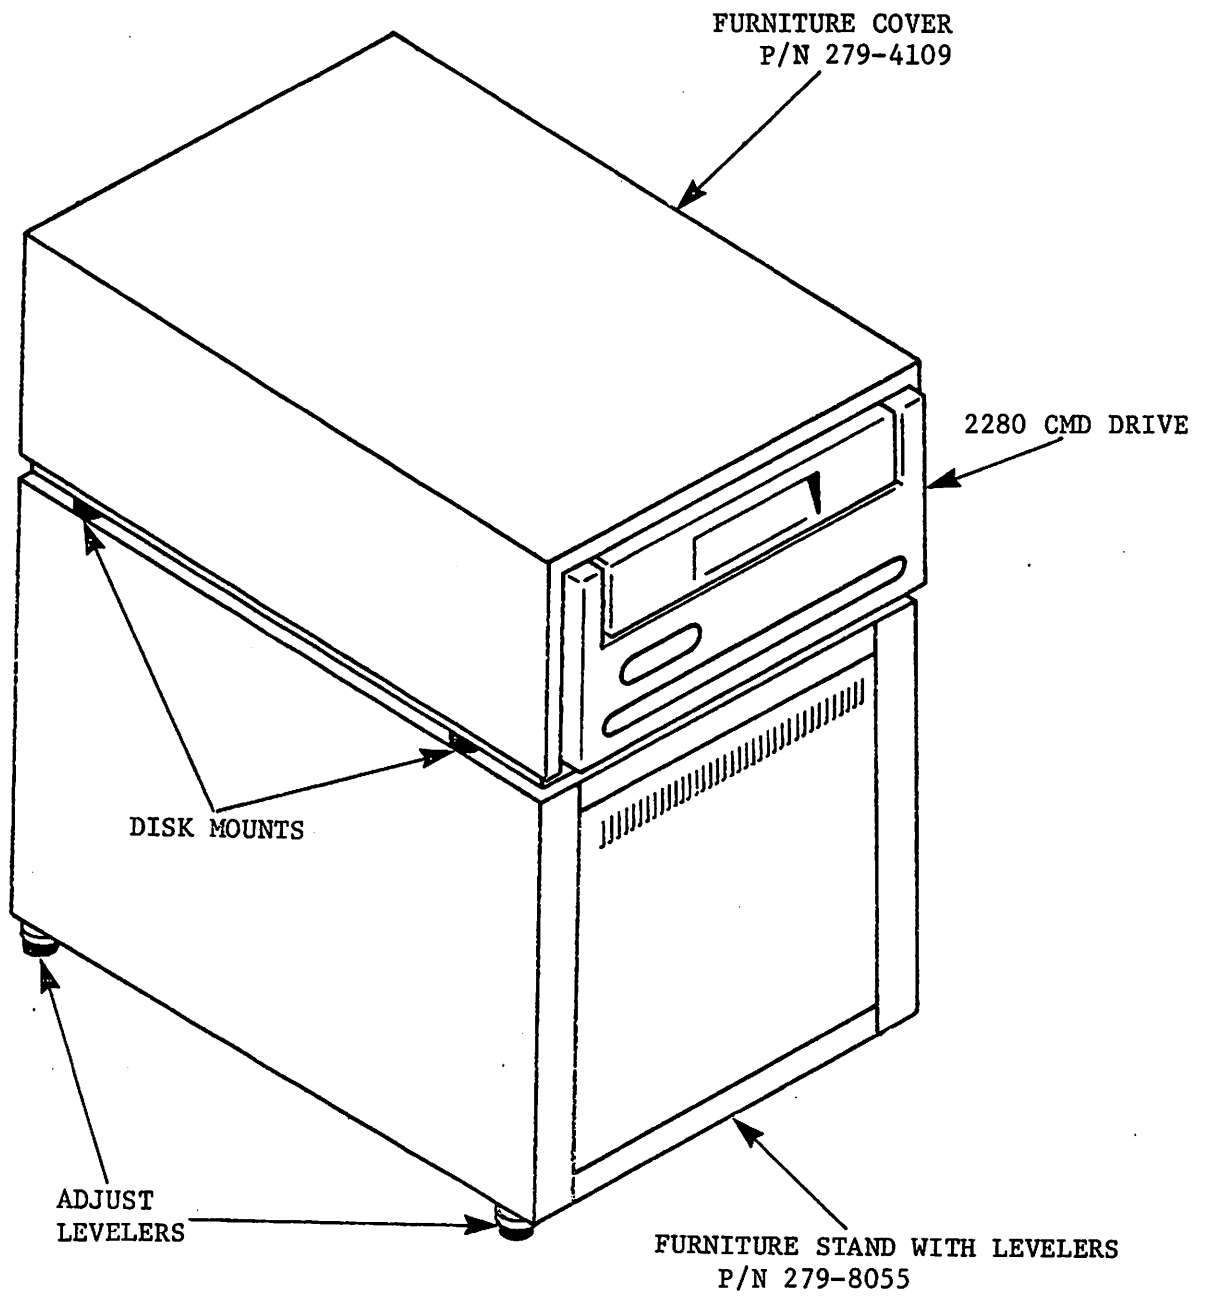

FIGURE 2-3 WANG 2280 CMD DRIVE MOUNTED ON STAND WITH COVER
3. Unpack the Disk Base Stand furniture. The furniture is packed in separate cardboard boxes. The Base Stand (P/N 279-8055) is in one box and the Disk Cover (P/N 279-4109) is in another. These two units are packed in cardboard containers with styrofoam corners to protect them from damage. Inspect for shipping damage prior to installing the Disk Drive. Insure that the stand has not been damaged. Set top cover of stand aside. Prepare bottom stand for mounting Disk Drive. Adjust the Base Stand levelers prior to mounting the drive. A final leveling of the Base Stand should be done after the disk drive is in position for testing and operating with the system. See figure 2-3.